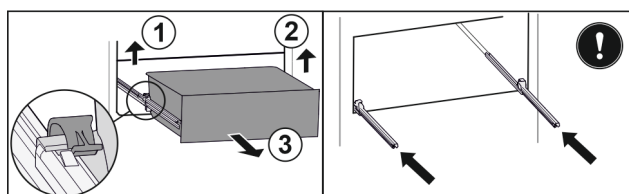

Fig. 107
- Lift left clamp and simultaneously pull drawer forwards on the left. Fig. 107 (1)
- Lift right clamp and simultaneously pull drawer forwards on the right. Fig. 107 (2)
- Remove drawer to the front. Fig. 107 (3)